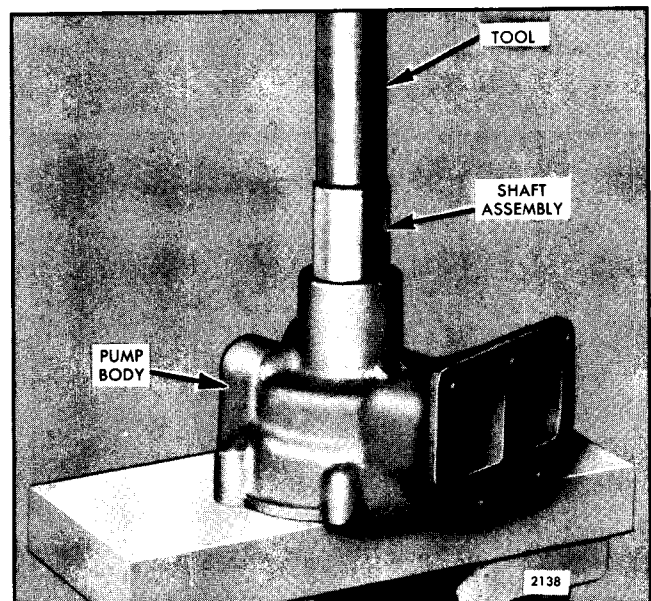

Fig. 8 - Pressing Shaft Assembly into Water Pump using Tool J 1930
1. Use installer J 1930 to apply pressure to the outer race of the bearing (Fig. 8) and press the shaft and bearing assembly into the pump body until the outer race of the bearing is flush with the outer face of the body.